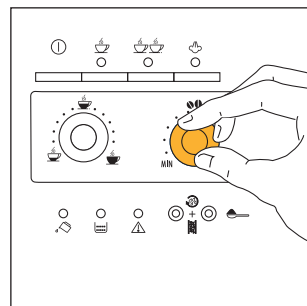
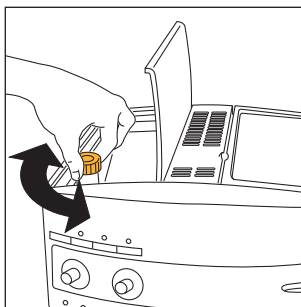

Fig.7
Fig. 17
- 2) Adjust the right-hand knob (Fig. 7) to set the desired taste of the coffee. Turning the knob clockwise increases the quantity of coffee beans that the machine will grind, and thus makes the taste of the coffee stronger. When using the machine for the first time, the correct position of the knob can be found by trial and error. Make sure not to turn it too far clockwise, otherwise the coffee will be delivered too slowly (in drops), above all when preparing two cups of coffee.
NOTE 1: If the coffee is delivered a drop at a time or not at all, turn the grinding coarseness regulator (fig. 17) one click clockwise (see para. 6). Turn a click at a time until the coffee is delivered satisfactorily.
NOTE 2: If the coffee is delivered too fast and is not creamy enough, turn the right-hand knob (fig. 7) clockwise. Proceed by trial and error to find the correct position of the knob. Make sure not to turn the knob too far clockwise, otherwise the delivery may become too slow (in drops), above all when making two cups of coffee. If, after several coffees, the cream is still not satisfactory, also turn the grinding adjustment knob (Fig. 17) one click clockwise (see para. 6).
To resolve this problem, re-set the grinding coarseness on the coffee grinder by adjusting the knob (Fig. 17) one click anticlockwise (as described in chap. 6).
Nonetheless, after having made the first coffees, if delivery is too fast or too slow (in drops), the grinding coarseness must be adjusted using the knob (Fig.17) located inside the bean container. Turning one click (one number) clockwise achieves faster delivery of the coffee (without drops).